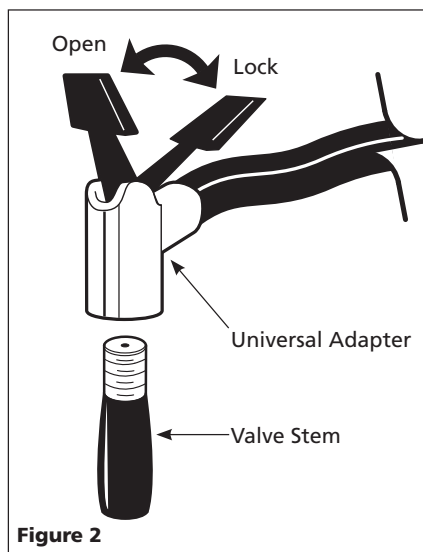

Figure 2
2. Attach the universal adapter (see Figure 2) from the inflator to the valve stem with the lever in the up position. Be sure to press universal adapter down over valve stem threads completely. When universal adapter is firmly in place, press locking lever down to lock onto valve stem.